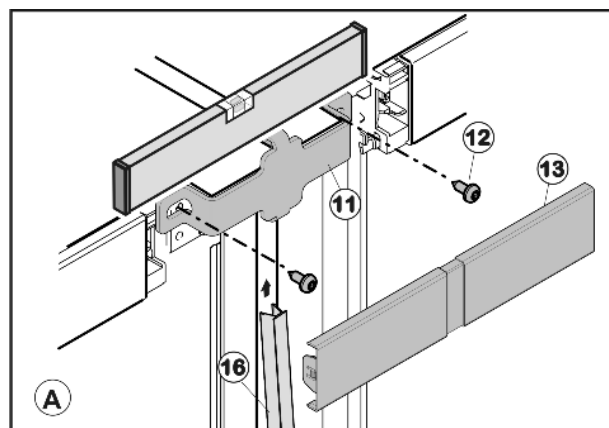

Fig. 52
- Secure upperconnecting element Fig. 52 (11) using two screws Fig. 52 (12). Make preliminary holes (optional) or use a cordless screwdriver.
- Clip on cover panel Fig. 52 (13).
- Fit strip Fig. 52 (16), push it slightly under the top cover Fig. 52 (13) and then press it downwards into the gap.